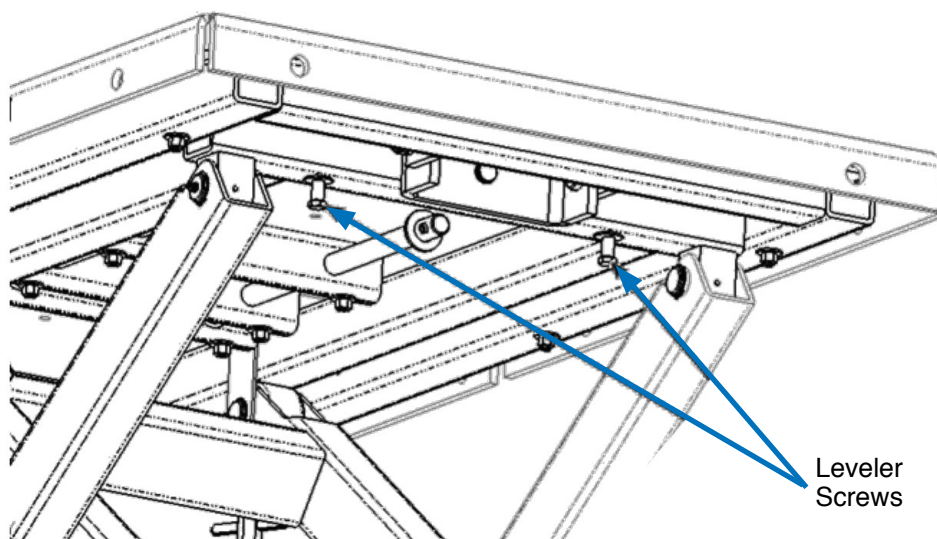

FIG. 2
1. Insert leveler screws into sockets (approximate 5 turns). Leveler screws should not project above the steel tube or contact the platform underneath when not in use. See Fig. 2 of "Stabilization Feature" section.
If lift is to be used as a stationary work surface for servicing components, two leveler screws (see Fig. 2) have been added to help stabilize the platform.